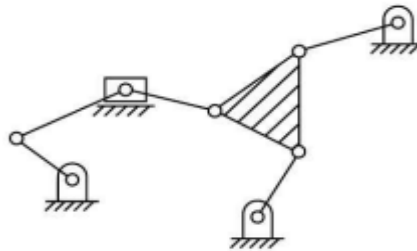

Fig.1.
- 2) Find degrees of freedom for the mechanism as shown in the Fig.1.